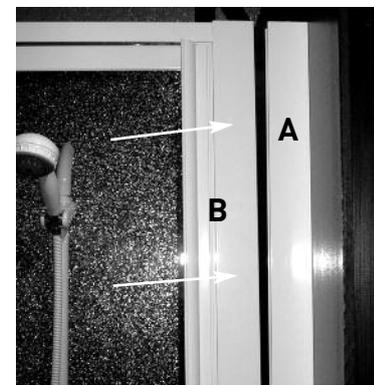

Figure a6
⑥ Once the Pivot Door (B) is sitting fully inside one Wall Profile (A) (**Stage 5**), slide the Pivot Door following the arrows (**Figure a6**) into the remaining Wall Profile.